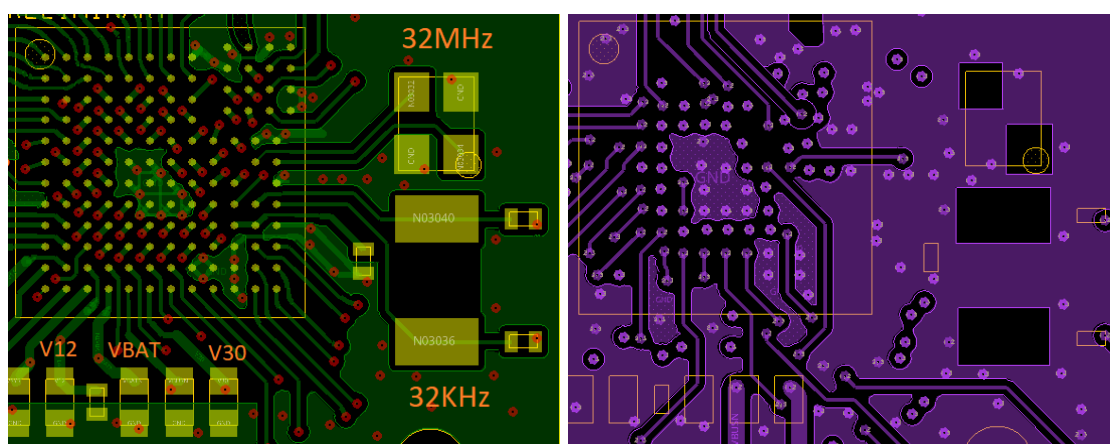

Figure 17: Remove Copper on Internal Layer (Right) under XTAL
- Remove GND area under XTAL pads (Figure 17)